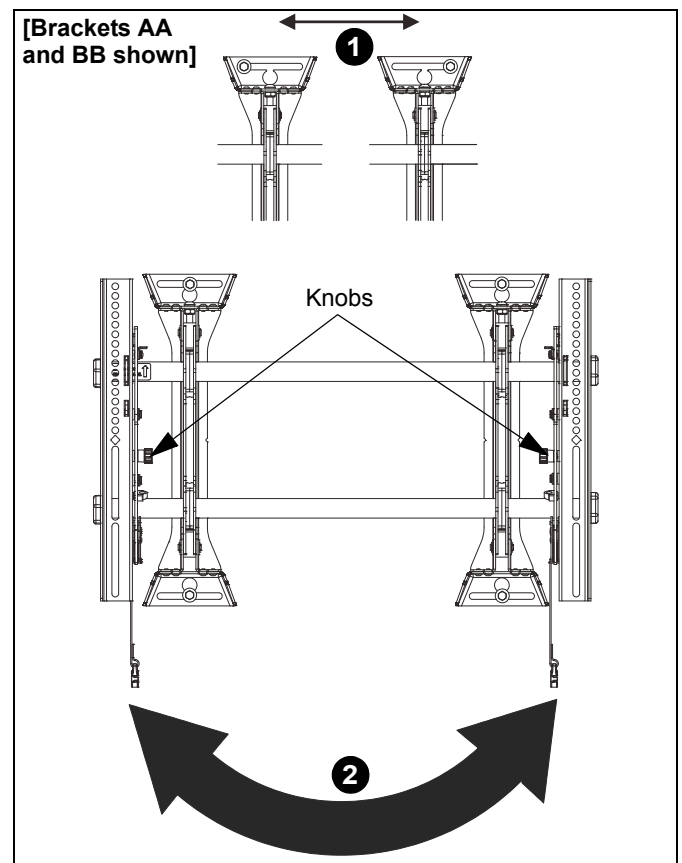

Figure 7
1. The wall brackets may be adjusted side to side at the point of attachment. (See Figure 7)
2. The location of the left and right interface brackets (Y and Z or AA and BB) may be switched, with the knobs on the MTM1U/LTM1U interface brackets (AA and BB) facing the inside of the mount. (See Figure 7)